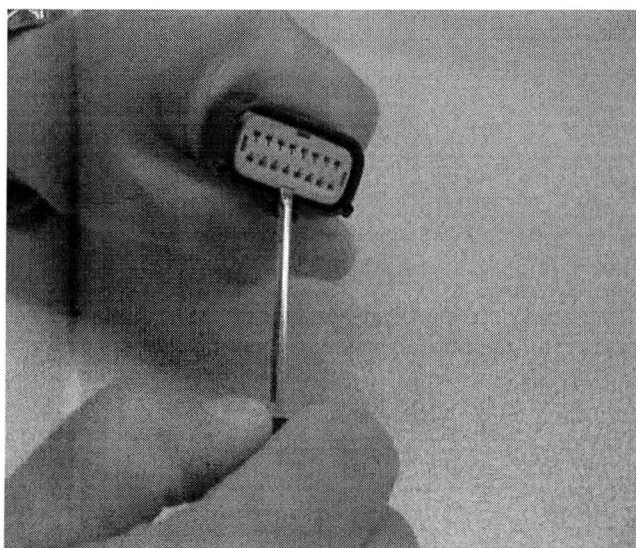
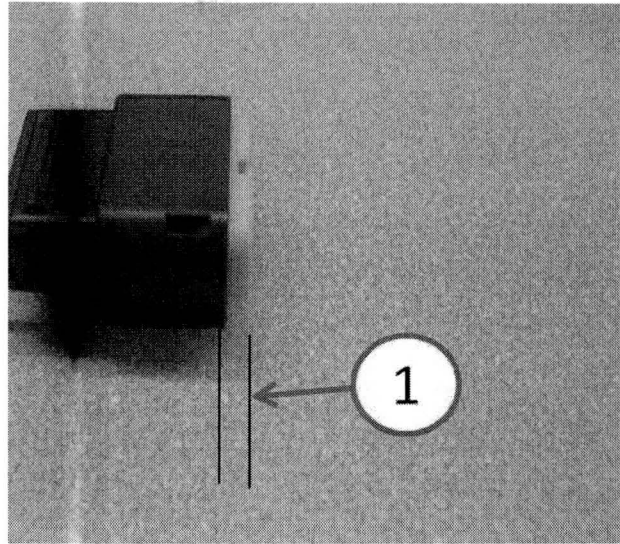

Fig. 2 LIFT TPA 5MM
Fig. 3 PROPER EXTENSION OF TPA
14. To release the terminals from the original Oxygen Sensor Module connector; use a narrow blade, flat screwdriver (3 mm wide max), and pry the white TPA (white cover seen when looking in connector). Notice the travel of white TPA is only .2" (5 mm) or until a "click" is heard. This is the release point of the TPA. The TPA is a device that locks the release finger so that when seated, terminal will not and cannot be disengaged, (Fig. 2) and (Fig. 3). Do not extend the TPA past .2" (5 mm) or the TPA may be damaged.
17. Working with the Overlay Harness Oxygen Sensor Module connector; use a narrow blade, flat screwdriver (3 mm wide max), and pry the white TPA (white cover seen when looking in connector). Notice the travel of white TPA is only 5 mm or until a "click" is heard. This is the release point of the TPA. The TPA is a device that locks the release finger so that when seated, terminal will not and cannot be disengaged,(Fig. 2) and (Fig. 3) above.